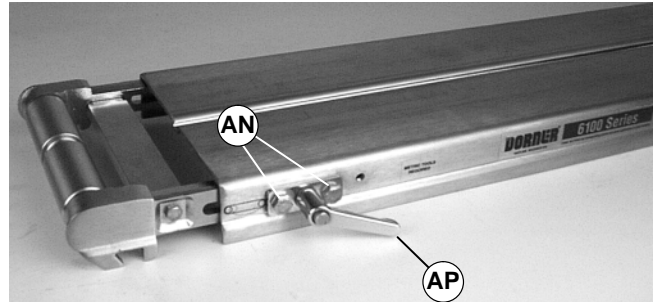

Figure 34
3. Remove two (2) screws (AN of Figure 34). Remove handle assembly (AP).